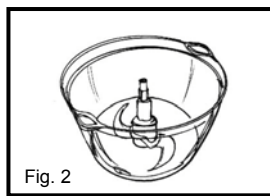

Fig. 2
3. Place the spindle with the blade onto the locating pin in the food processor bowl. (Fig. 2)